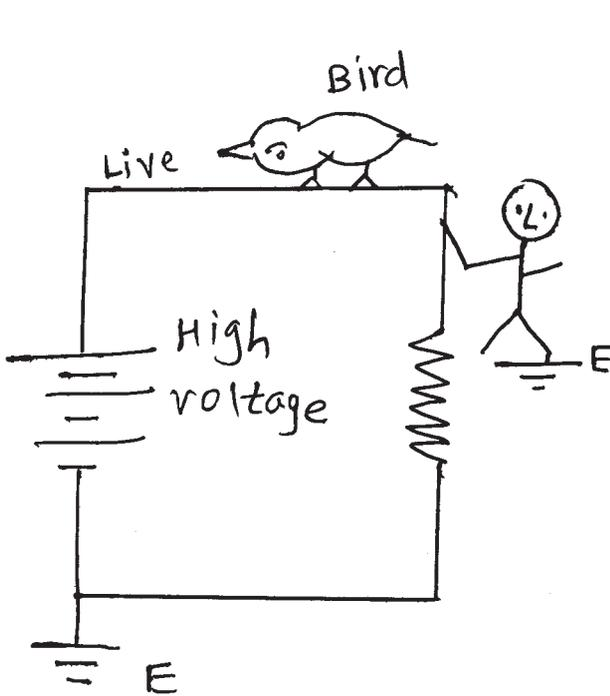
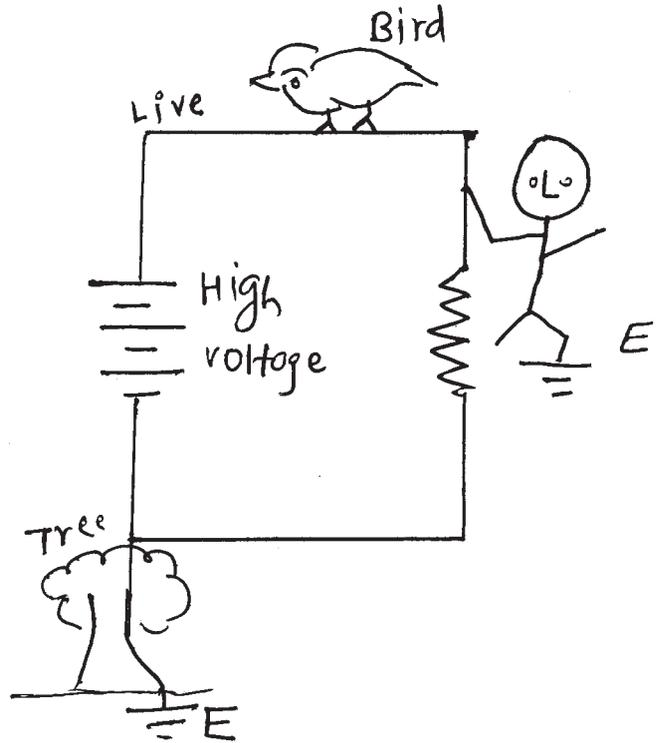

Fig. No. 3
Fig. No. 4
- a) Observe the following Figure No. 3 and Figure No. 4 carefully and state whether person and bird touching the live wire will receive the electrical shock or not. Justify your answer.